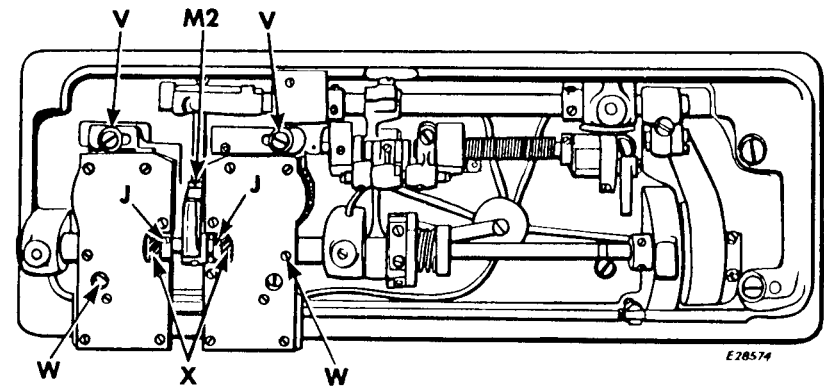
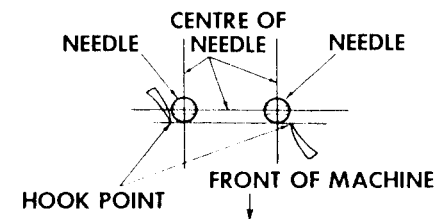

Fig. 16. Adjustments Underneath the Machine
Fig. 16A
Turn machine pulley over toward you until the points of the sewing hooks are at the centres of the needles. Loosen the four screws V,V and W,W, Fig. 16 underneath the bed of the machine.
**CAUTION:** Make sure hook driving gears X, Fig. 16 are set correctly with relation to face of hook saddle. Use .008 shim.
In case the sewing hooks are not correctly timed, turn the machine pulley over toward you until the needle bar has descended to its lowest point and has risen until the lower timing mark across the needle bar is just visible at the end of the needle bar frame. Loosen the two screws J, Fig. 16 in the hub of each hook and turn the hooks until the point of each hook is positioned as shown in Fig. 16A.
Remove the throat plate; clean the lint and dust from between the feed points and replace the throat plate. Tip the machine back and turn the machine pulley toward you until the feed dog is at its highest position. Loosen screw **M2**, Fig. 16 in the feed lifting cam fork and, as required, raise or lower the feed dog. Retighten the screw **M2**.